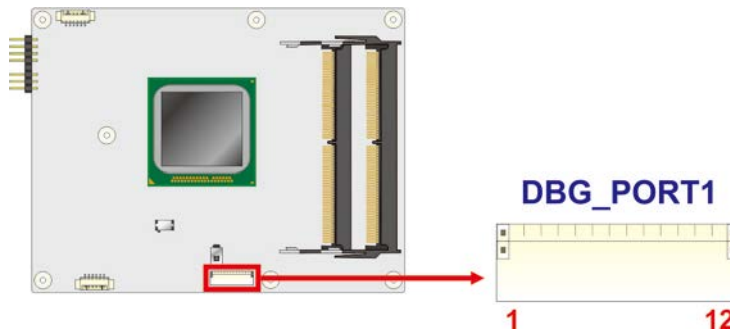

Figure 3-7: LPC Debug Port Location
- CN Location:** See **Figure 3-7**